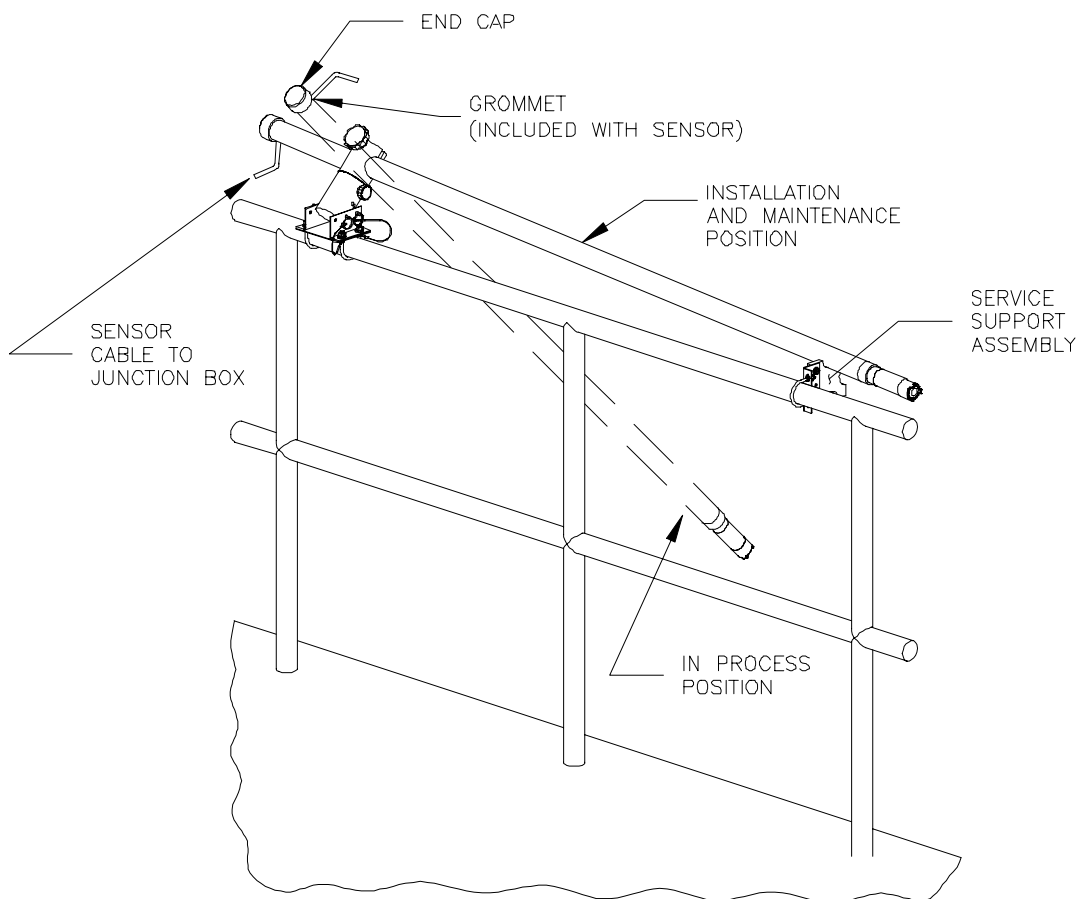

FIGURE 2-8
2. Refer to Figure 2-8 and mount the hardware **service support assembly** to a handrail in a suitable location that is approximately 5 ft. (1.5 m) from the swivel/pivot/pipe clamp assembly.